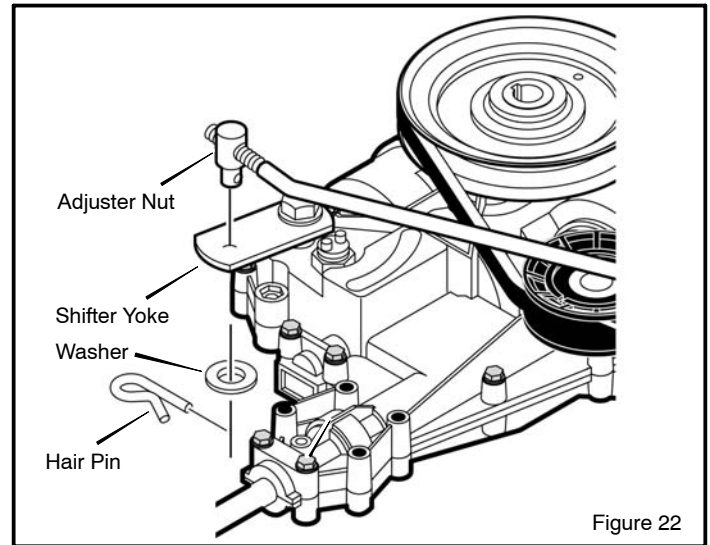

Figure 22
2. Disconnect the **adjuster nut** from the **shifter yoke** (Figure 22).